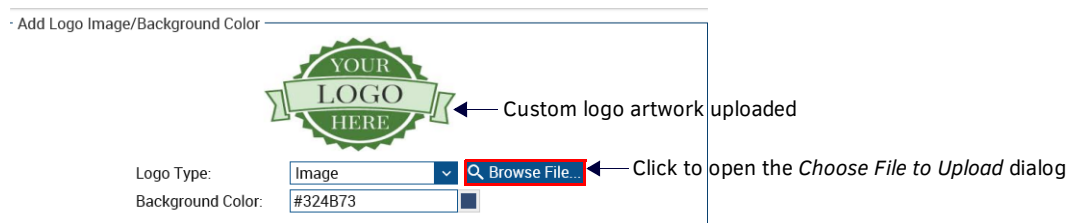

FIG. 53 Sample custom logo artwork uploaded
4. The selected image is displayed in the UI Themes page (FIG. 53):